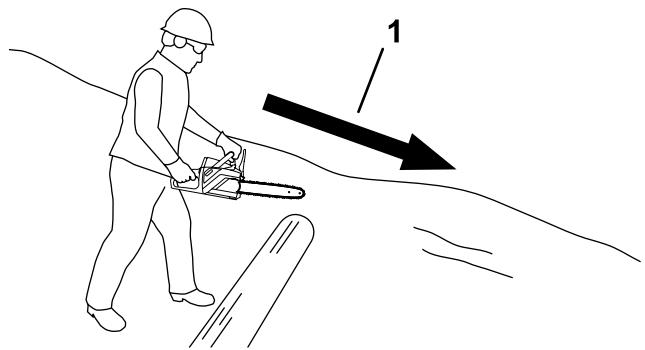

Figure 20
- If the log is on a hill, always stand on the uphill side of the log (Figure 20).